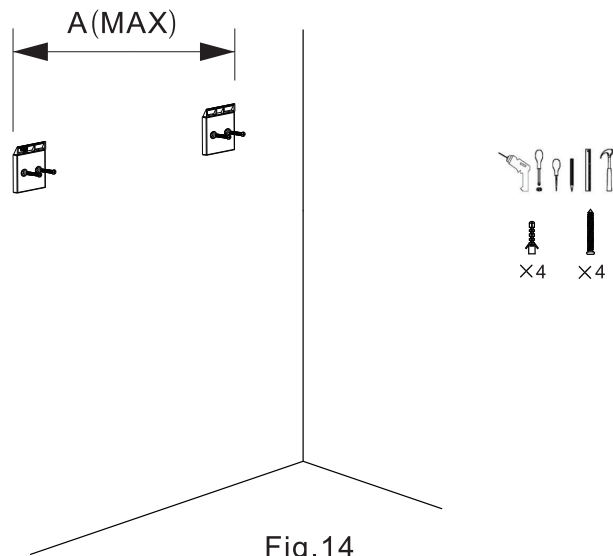

Fig.14
- 1.4 Knock the expansion plugs into the holes in the wall with a hammer, and then tighten the screws with a screwdriver to fix the bar, and calibrate the level with a spirit level (Fig.14).